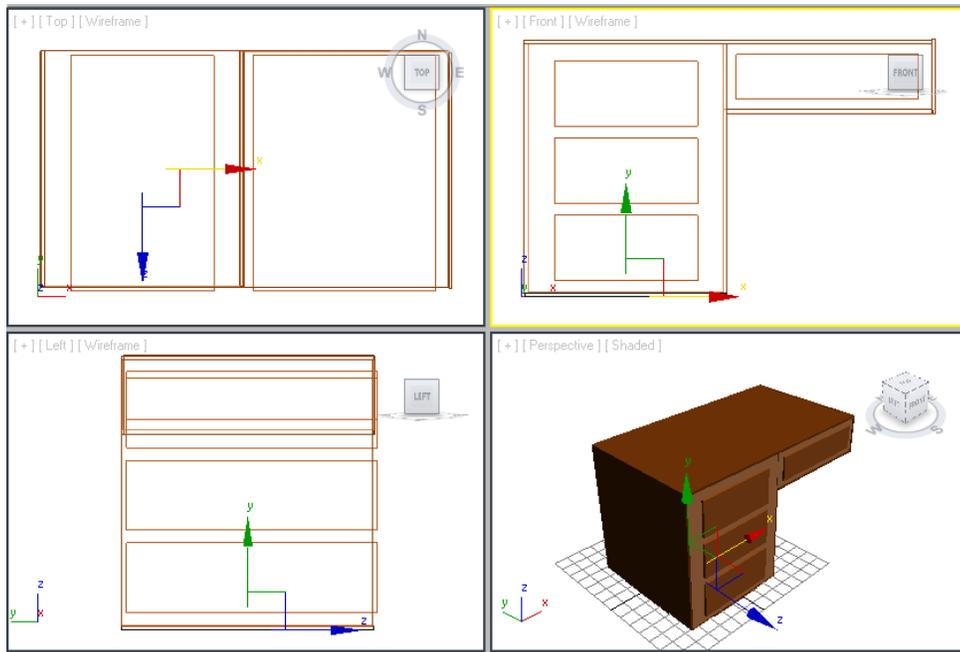

Figure 2-50 Alignment of the lower face with the bottom of the left box
10. Align the *lower face* with the bottom of the *left box*, as shown in Figure 2-50.